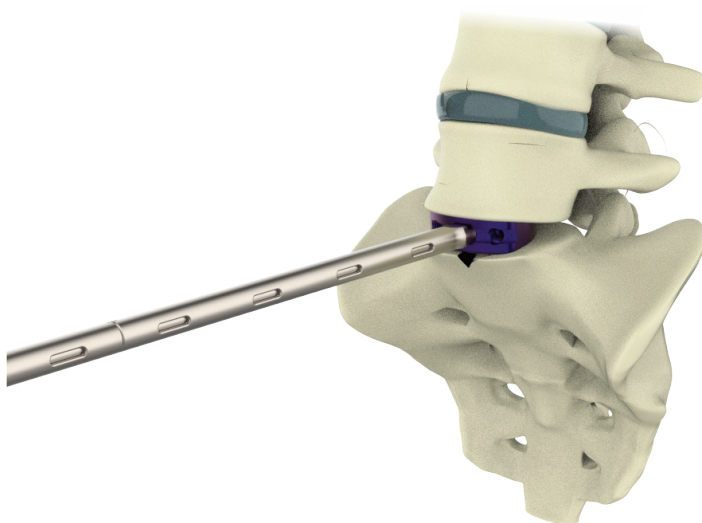

Figure 5a
- After the trial is locked on the locksleeve inserter, it may be inserted into the disc space (Figure 5a). Under lateral fluoroscopy confirm the: